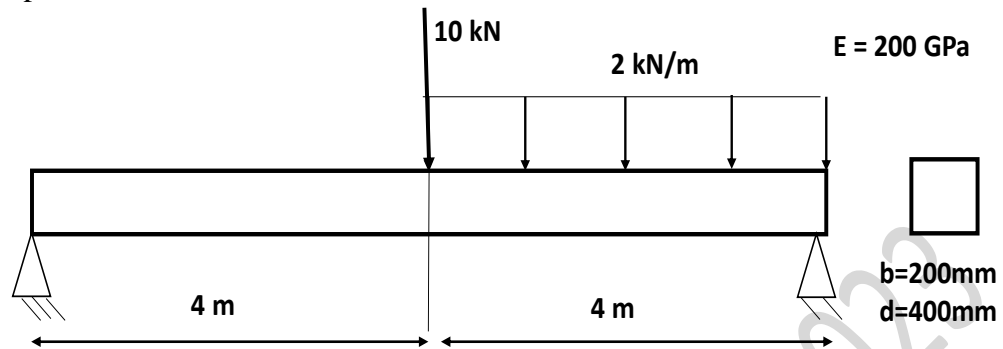

Fig. 5a
- 5 a) For the beam shown in Fig. 5a, estimate the deflection and slope at the mid-span. 16